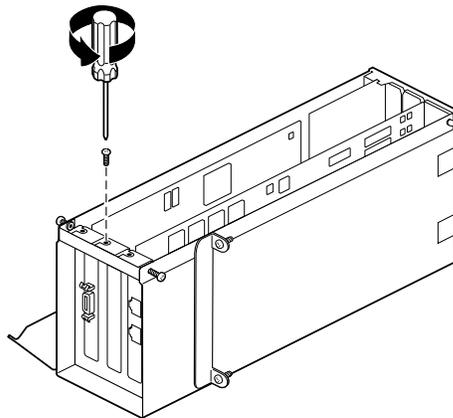

Figure 4-43 Attaching the Blank Panel to the I/O Door
9. Attach the blank panel to the I/O door with the screw you removed earlier in this section, as shown in Figure 4-43.